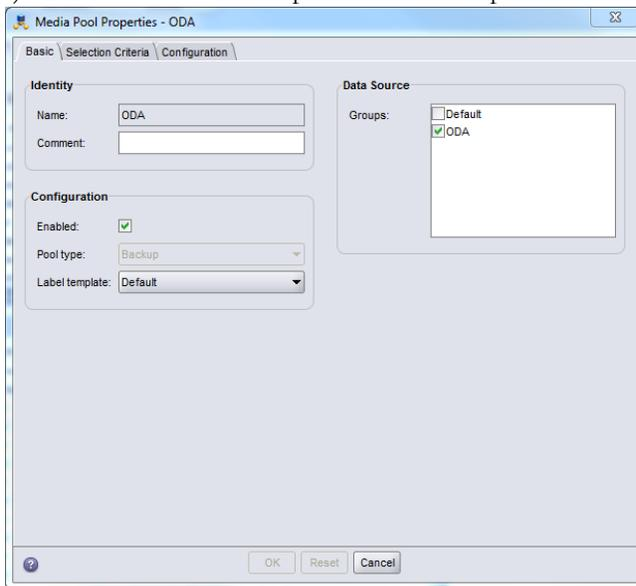

Figure 11: NetWorker Media Pool Properties – Basic tab.
- 5) Select a Label template from the drop-down menu - Default in this example. (See figure 11):